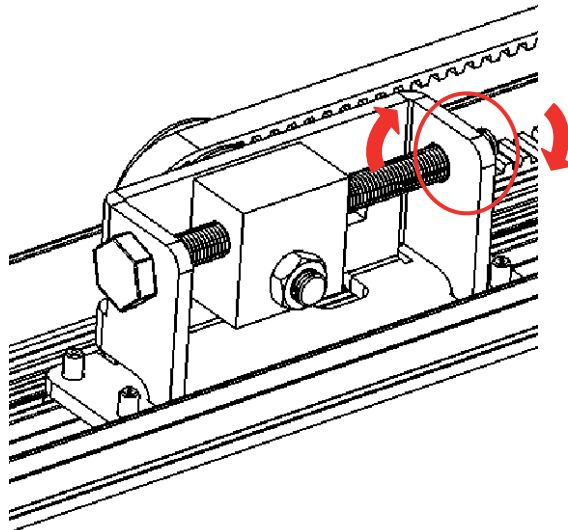

Figure 23: Loosen the locking nut.
5. On the belt tensioner, loosen the locking nut using the enclosed wrench (located on the long tensioning bolt – see Figure 23).